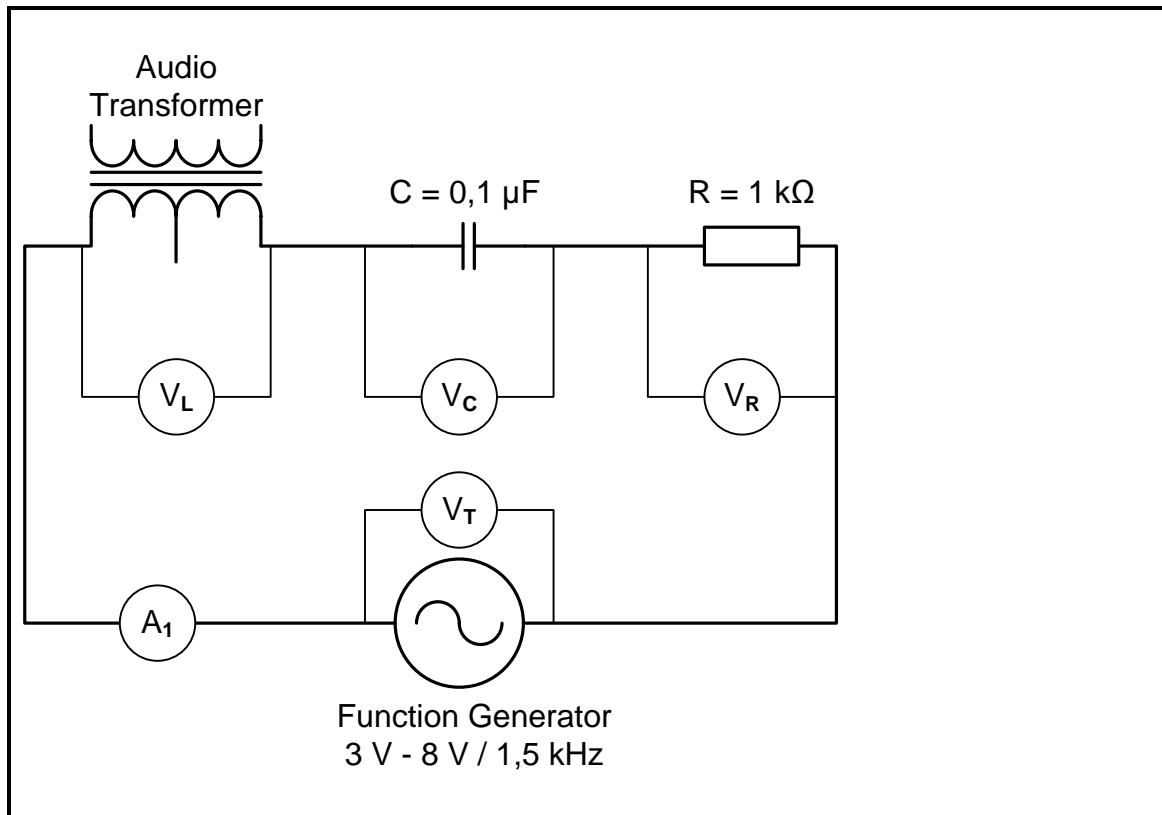

FIGURE 4.1
- (b) Build the circuit diagram in FIGURE 4.1 on your experiment board. You will be assessed with the rubric below.